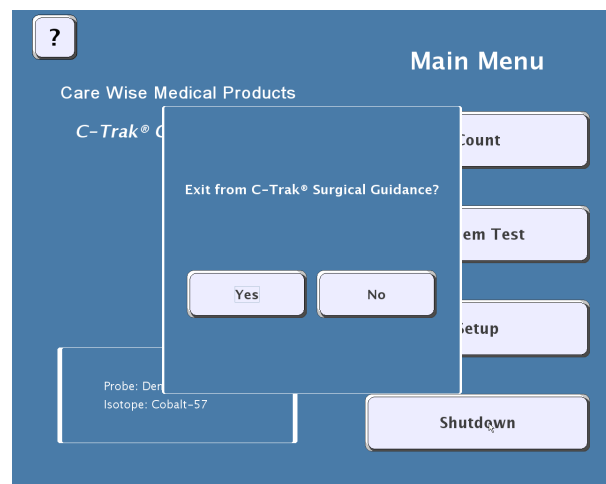

Figure 21 – Shutdown Screen
- (10) **User Guide Button** – Pressing this button directs the user to the help section, USER GUIDE SCREEN [Figure 21], described in 2.4-13.
- (11) **Surgical Information Window** – This area of the screen displays information about the current surgical procedure, including which probe and isotope are in use, what count time duration is selected, whether the squelch is active or not, and what detection range is selected.
The Shutdown Screen [Figure 21] is located on the Main Menu [described in 2.4-6] and allows the user to turn off the Galaxy System.